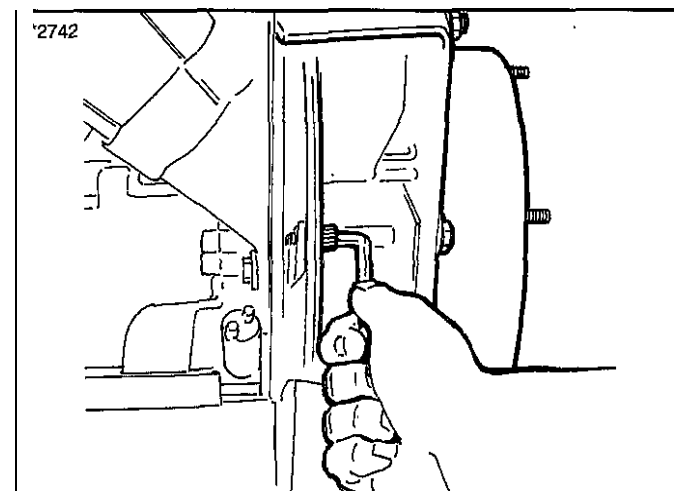

Figure 38. Remove Chipper Knives
15. Using an **allen** wrench or hex bit socket, unscrew the two cap screws that secure the chipper knife to the rotor. It may be helpful to clean out the sockets on the cap screws with a smaller **allen** wrench or piece of bent wire before attempting to remove the screws (Figure 38).